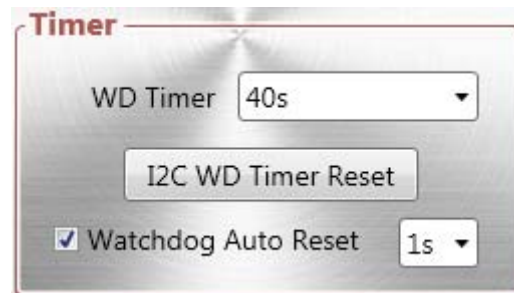

Figure 8: Setting the Watchdog Timer Limit
6. To select the I²C watchdog timer limit, click “Watchdog Auto Reset” to enable watchdog control and run the program automatically (see Figure 8).